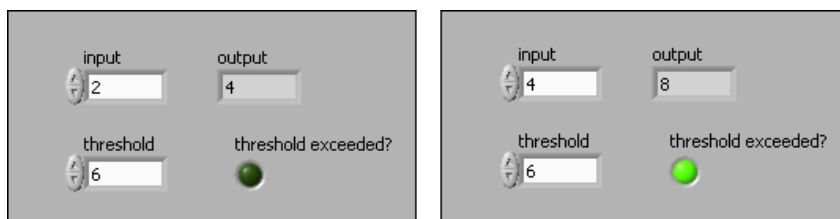

Figure 18. Increasing Input Causes Output to Exceed Threshold and Lights the LED
4. Enter different values in the **input** numeric control. In Figure 18, the front panel on the left does not exceed the threshold value. If you enter a number greater than the threshold, the **threshold exceeded?** LED lights as shown in the front panel on the right in Figure 18.